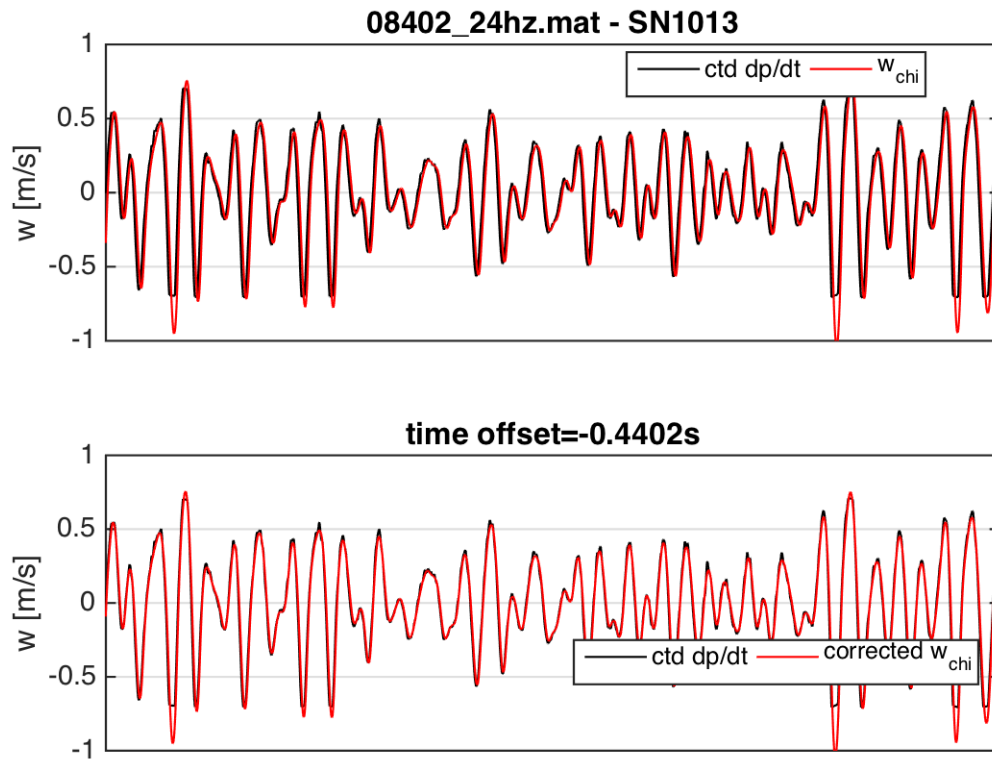

Figure 4: Zoom-in of dp/dt and chipod w allowing one to check if time-offset is correct. Bottom panel should match.
- `cast_001_w_TimeOffset_Zoom` (Figure 4). Shows a zoomed-in period of the time-offset. The two timeseries should match in the lower panel.